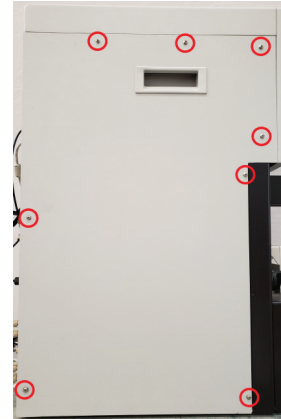

Figure 11: Left side panel
4. Using a #2 Phillips screwdriver, remove 8 screws securing the left side panel and set the panel aside (Figure 11)